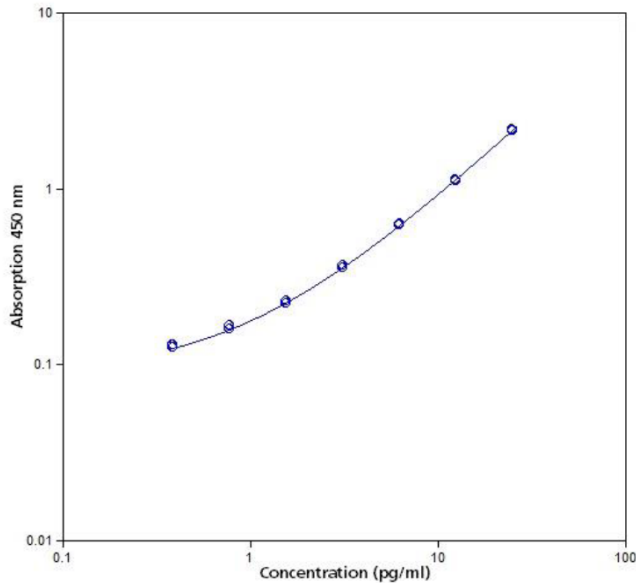

Fig. 9 Representative standard curve for human Big ET-1 ELISA. Human Big ET-1 was diluted in serial 2-fold steps in Sample Diluent.
- A representative standard curve is shown in Figure 9.